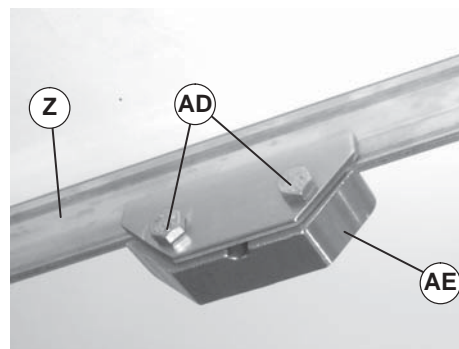

Figure 13
3. Attach return roller assembly (Figure 13, item AE) on each side of conveyor (Z). Tighten screws (AD) to 80 in-lb (9 Nm).